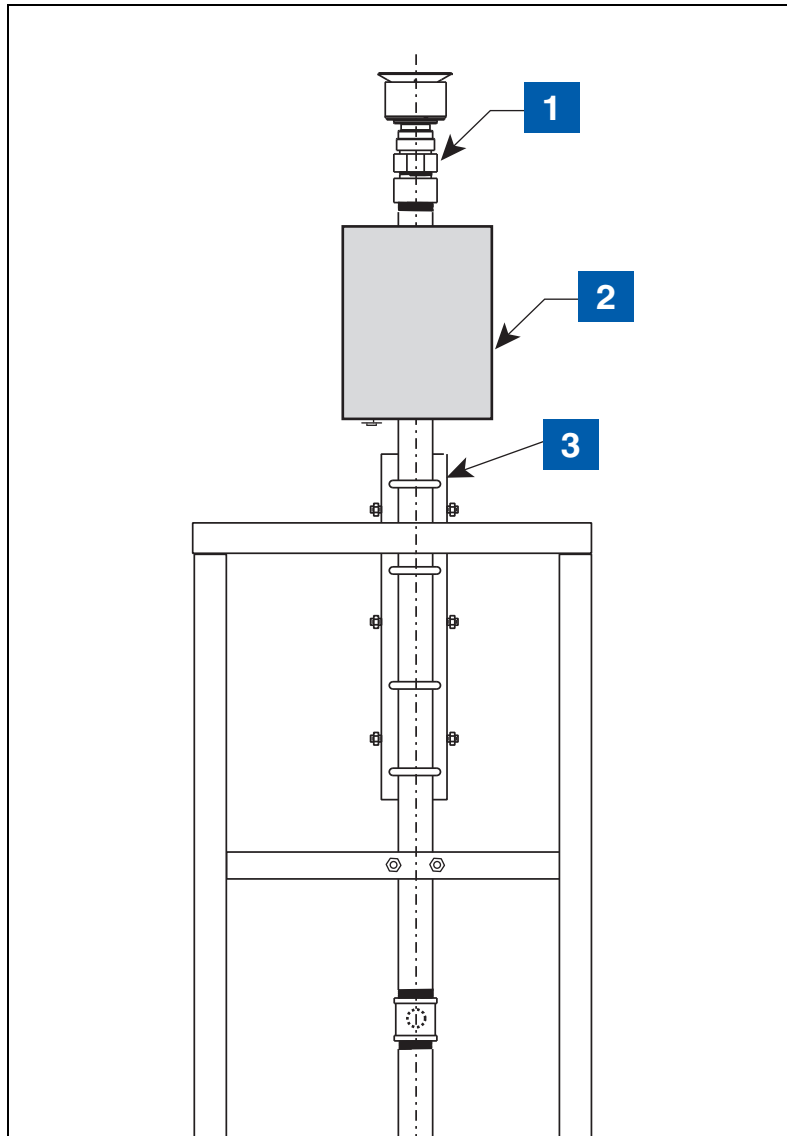

Figure 15. Example CCVP installation
2. A Transmitter /battery pack pair must be installed with the Veeder-Root Carbon Canister Vapor Polisher (CCVP) in a weatherproof enclosure mounted on the vent stack (see Figure 15).
**LEGEND FOR NUMBERED BOXES IN Figure 15**